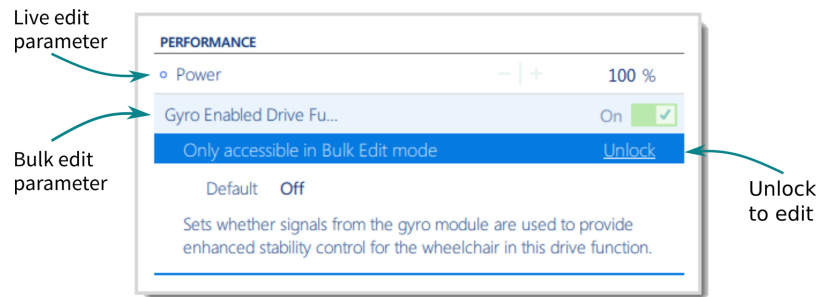

Figure 14: Unlocking bulk edit #2
2. Open any bulk edit parameter and click **Unlock** — *Figure 14*.